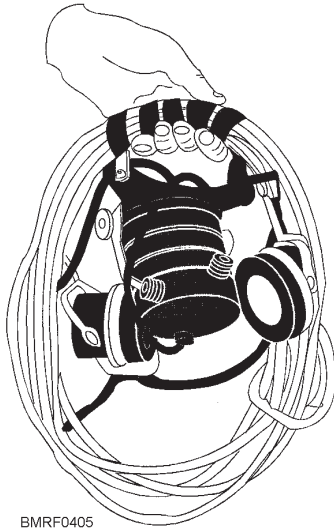

Figure 4-5.—Coiling completed.
5. Wrap the neck strap around the coil and the headband two or three times and snap the end back on the breastplate; then fold the mouthpiece up against the junction box. You now have a neat, compact package for stowage, as shown in figure 4-5.